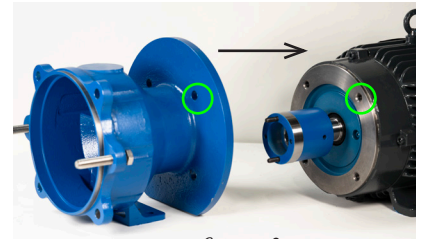

figure 3
- Slide the motor adapter over the shaft adapter and secure the motor face using hex head bolts (Items 30 & 31) and lock washers. See figure 3.